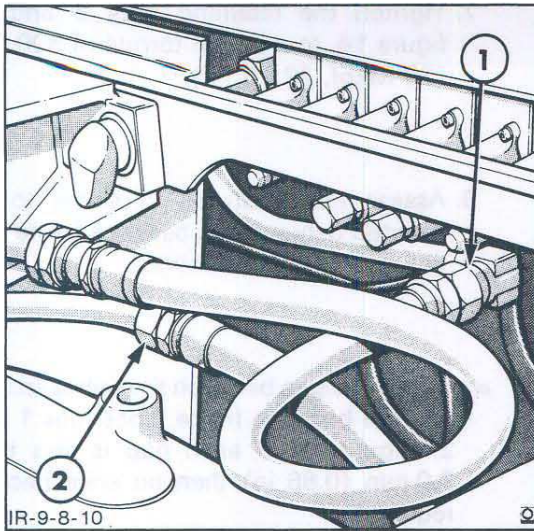

Figure 11
12. Disconnect the return to reservoir hose at the Unit fitting and the backhoe valve feed hose at the tube connection on the backhoe mainframe, Figure 11.
3. Replace the 'O' ring seals on the backhoe feed and return hoses and reconnect the hoses between the backhoe and Unit. Refer to Figure 11. Tighten the connections to the specified torque, see 'Specifications' – Chapter 11.